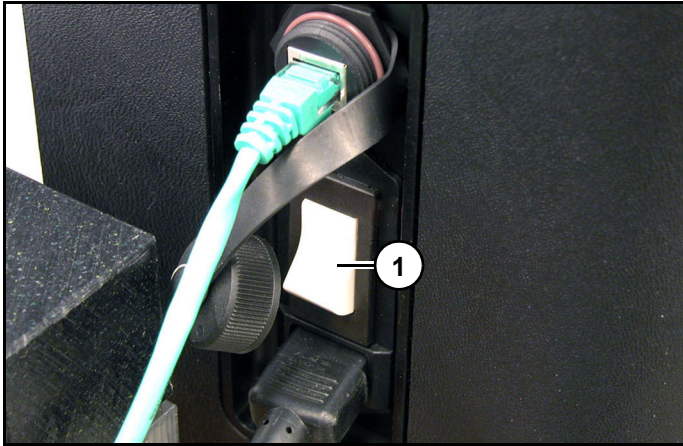

Figure 11
1. Turn main power switch (1) (Figure 11) on. Allow time for PC to boot up, status light will turn red after a few minutes.